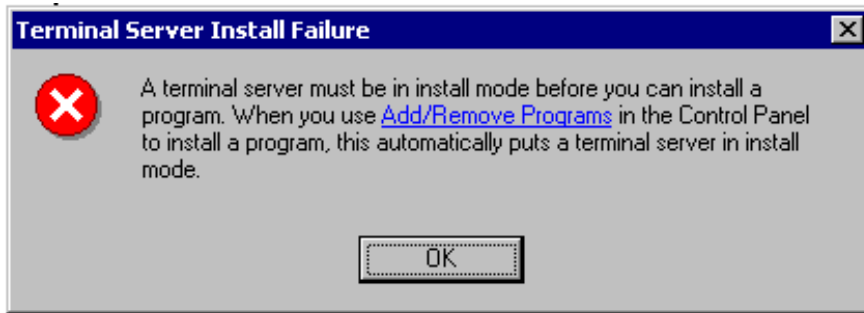

Figure 31. Terminal Server Install Failure
However, if you have Terminal Services running on Windows 2000, a terminal server must be in install mode before you can install a program. When you try to double-click a *setup*, you will receive a message that explains this (Figure 31):
1. Go to the **Control Panel** by clicking the link (Add/Remove Programs) on the message box (Figure 31).